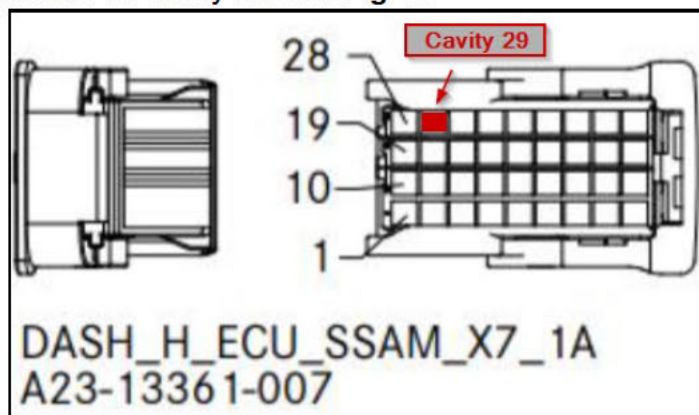

Fig. 2 Connector X7
7. Insert circuit 379W into connector X7 cavity 29. See Fig. 2.